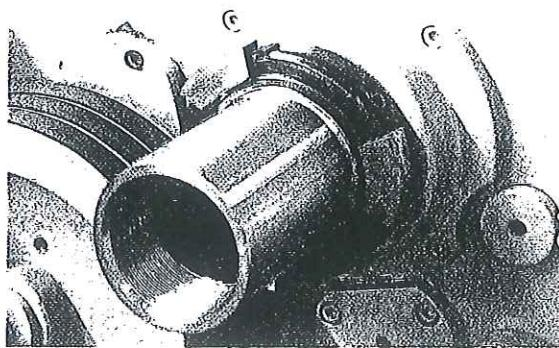

Figure 11
1. Mark lock nut and spindle. (**Figure 11**)
2. Mark balance weights on lock nut (**Figure 11**)